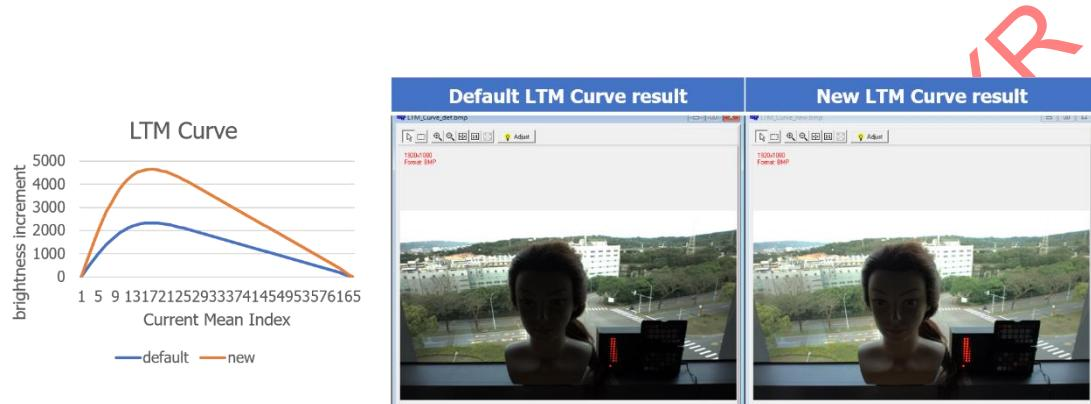

Fig. 5-143 LTM result with difference LTM Curve
- Increasing these parameters according to the Current Mean Index, make image brighter. (Fig. 5-143)